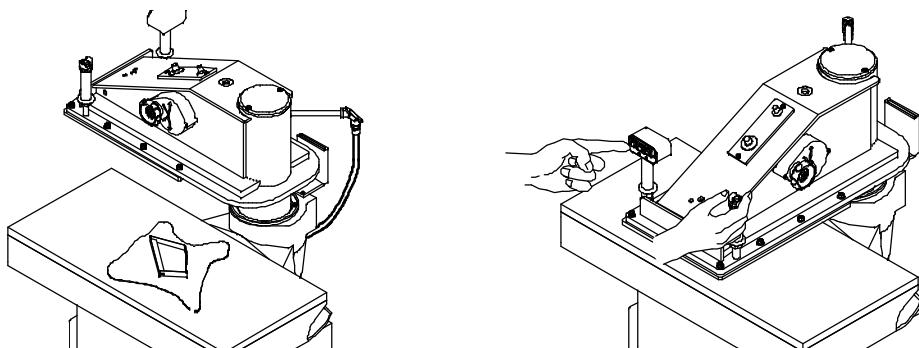

Fig. 16
- lay the material on the cutting table and place the cutting-die on it (left Fig. 16)
- after adjusting the stroke through the hanwheel (we suggest a stroke of  $7 \div 8$  mm), **simultaneously** press the push-button on the right handle and the most suitable one among those of the left handle (right Fig. 16) compared with the linear development of the cutting-die, by acting also on the potentiometers connected to the push-buttons No.1 and No.3, if necessary. In this way you can get the maximum cutting accuracy with the minimum cutting-board wear.